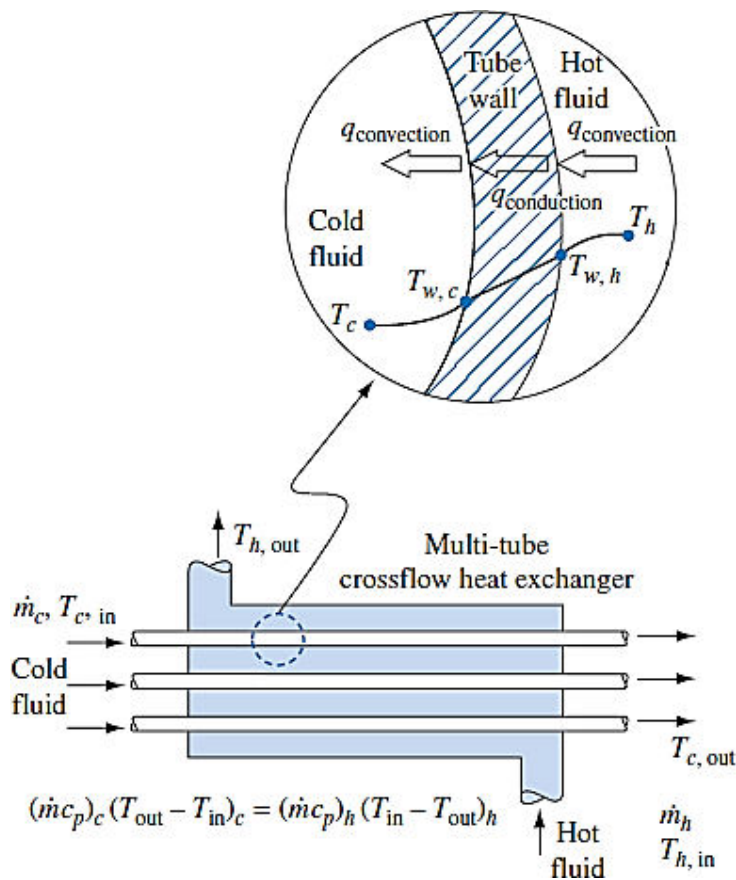

Fig. 9.7 Overall energy balance in heat exchanger
- Fig. 9.7 represents the block diagram of a heat exchanger.
- I. Overall heat transfer co-efficient (U) due to various modes of heat transfer